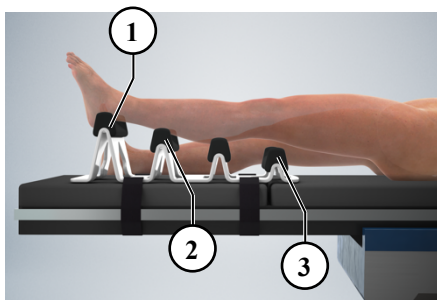

Fig. 5-14: *Position 1. Knee in extended position, with the heel resting on the tallest footrest.*
Figures 5-14 through 5-15 below do not show the drape for better visualization. The patient should never come in to contact with any portion of the RAMP, including the belts.
The RAMP is intended to be used with a lateral support. A lateral support can help prevent the knee and leg from falling laterally. Figures 5-14 through 5-20 below do not show this support for better visualization.
- ▶ To change the amount of knee flexion in various positions, position the patient more proximal or distal than what is shown in Figures 5-14 through 5-20.